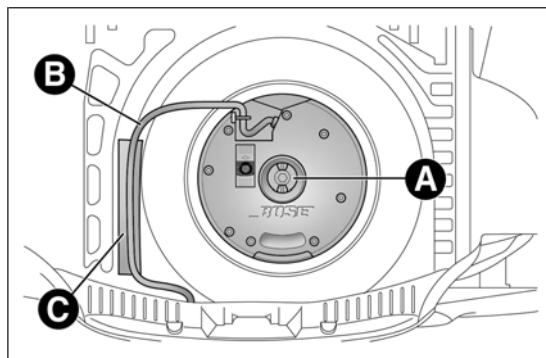

fig. 121
- ☐ unscrew locking device A fig. 121, raise the subwoofer and then remove connection cable B from the Velcro C;
- ☐ rest cable B fig. 121 on the Velcro C to avoid pinching it;